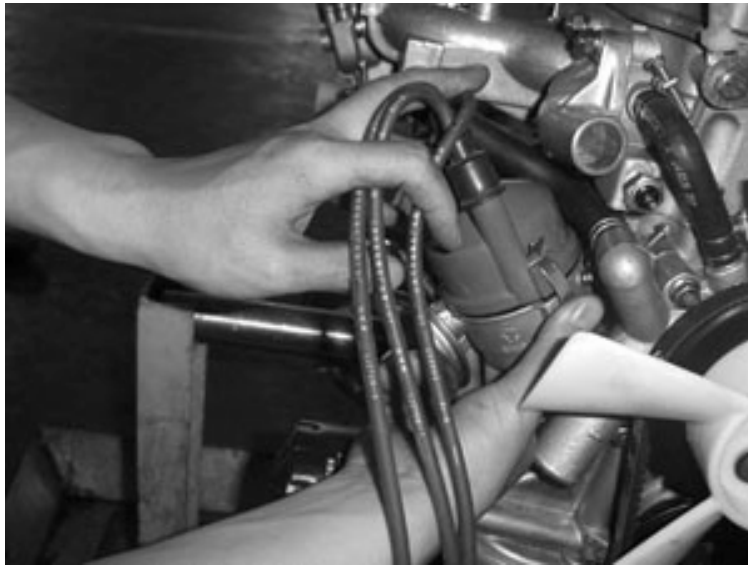

Figure 67
- 7) Fix the cover of the distributor (**See** Figure 67).